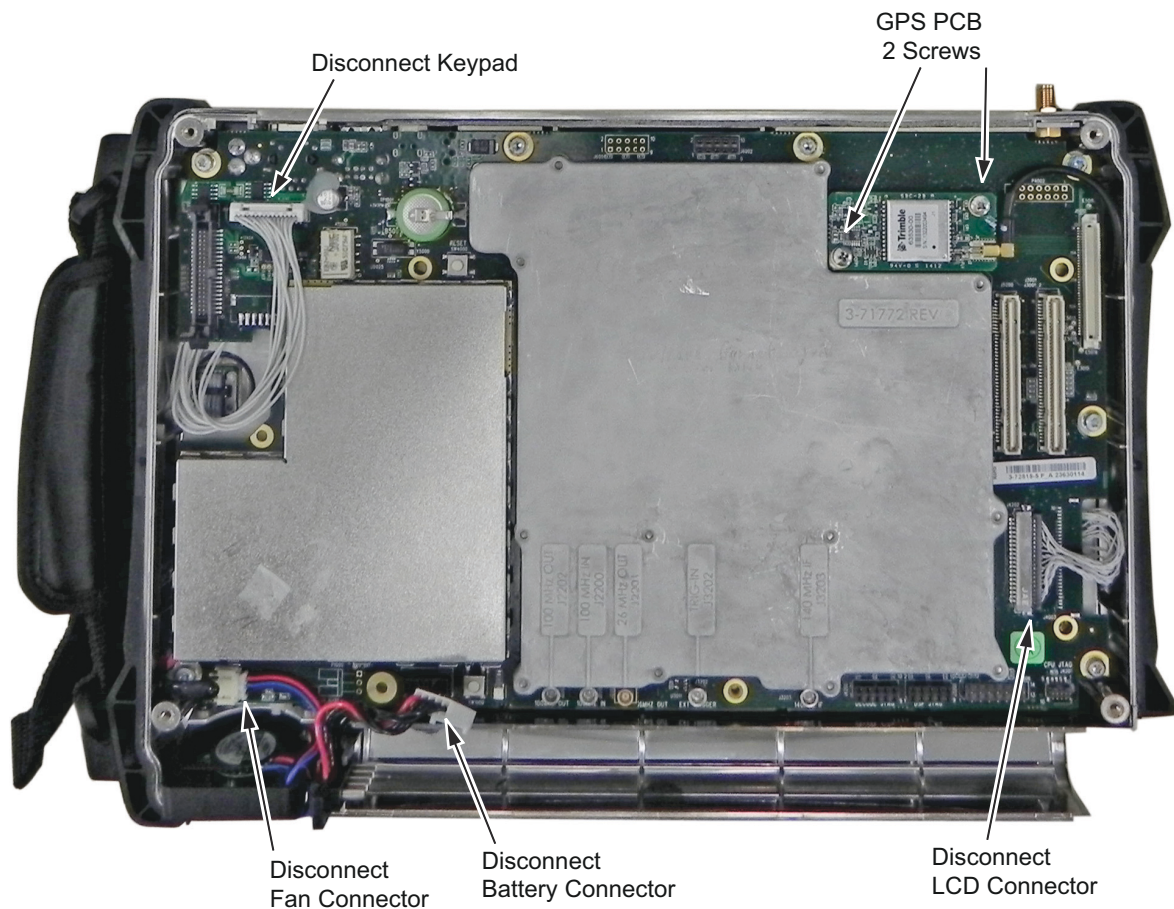

Figure 8-6. Disconnect the Cable Connectors on the Main PCB Assembly
3. Disconnect the Fan connector on the Main PCB Assembly (Figure 8-6).